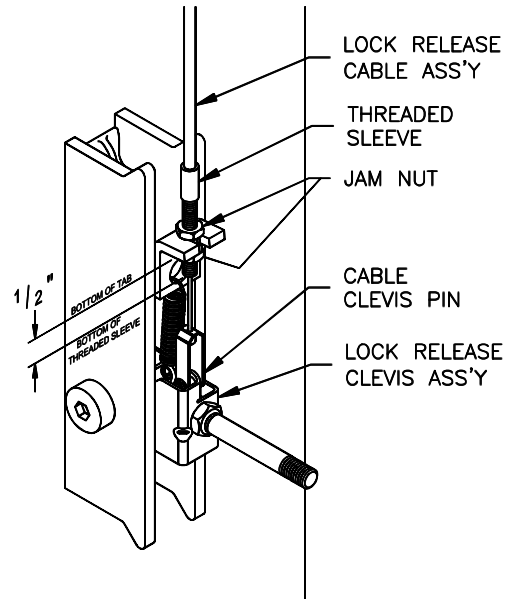

Fig 11 – Power Column Lock Assembly
- 30) Attach Mechanical Lock Release Cable Assembly to Power Column Lock Release Clevis using the 3/16" diameter x 1/2" long pin and (2) "C" clip retainers, **Fig 11**.
- 31) Insert threaded sleeve portion of cable assembly in slot located on tab above locking pawl, **Fig 11**. One jam nut should be located on each side of tab. Position threaded sleeve with 1/2" of thread below tab as indicated in **Fig 11** and tighten jam nuts.